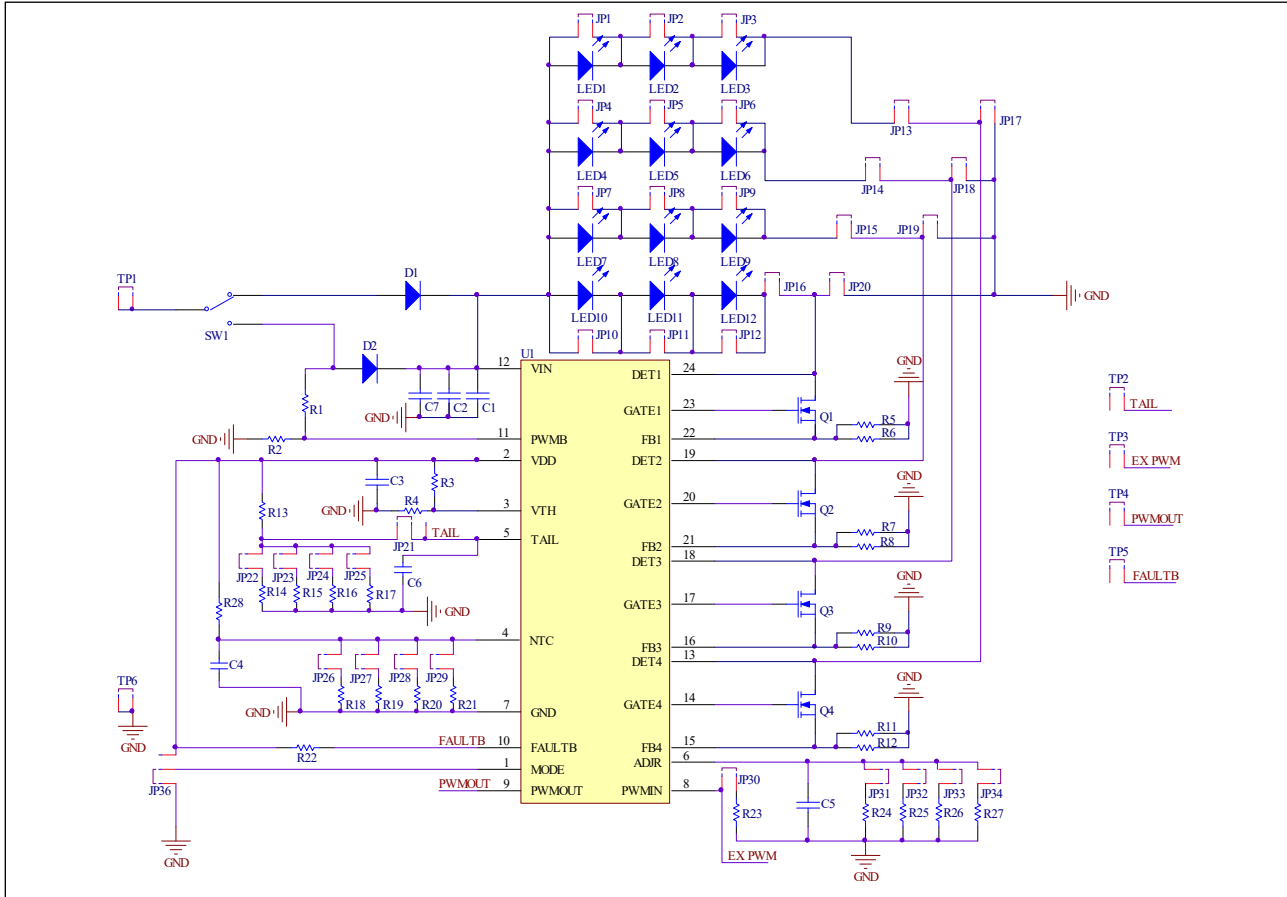

Figure 2 IS32LT3123 Application Schematic
When the TAIL pin is tied to V_{DD} directly, the IS32LT3123 will be in external PWM dimming mode. As in Figure 2 of the datasheet. The integrated PWM generator is disabled. An external PWM signal on PWMIN pin can modulate the output current based on the duty cycle. The recommended frequency range of the external PWM signal is 100Hz~1kHz and the duty cycle can be from 0 to 100%. Since the output current has slew rate control for EMI consideration, a lower frequency PWM will get better dimming contrast ratio. The calculation of output current is identical as Equation (15) and (16). Note that the PWMIN pin is high impedance input in external PWM dimming mode.
Bill of Materials refers to Figure 2 above.